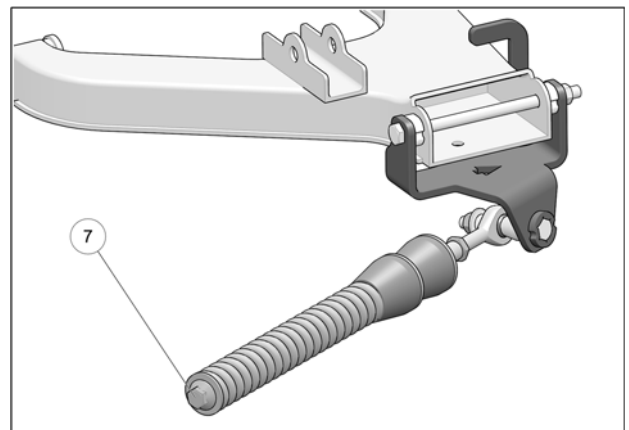

Fig. 14
11. Verify that spring assembly bolt (7) is tightened to the recommended torque specification: 75 N•m [55 lb•ft]. Refer to Fig. 14